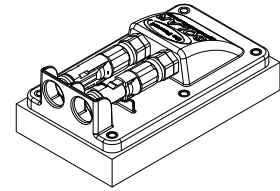

FIGURE 3-A: GP-CEP
4. Identify on your RV if you have a **Cable Entry Plate (GP-CEP)** see **Fig 3-A** pre-installed by the RV Manufacturer. The Cable Entry Plate makes the Solar Panel to Solar Charge Controller installation simpler. (After market purchase of GP-CEP available)